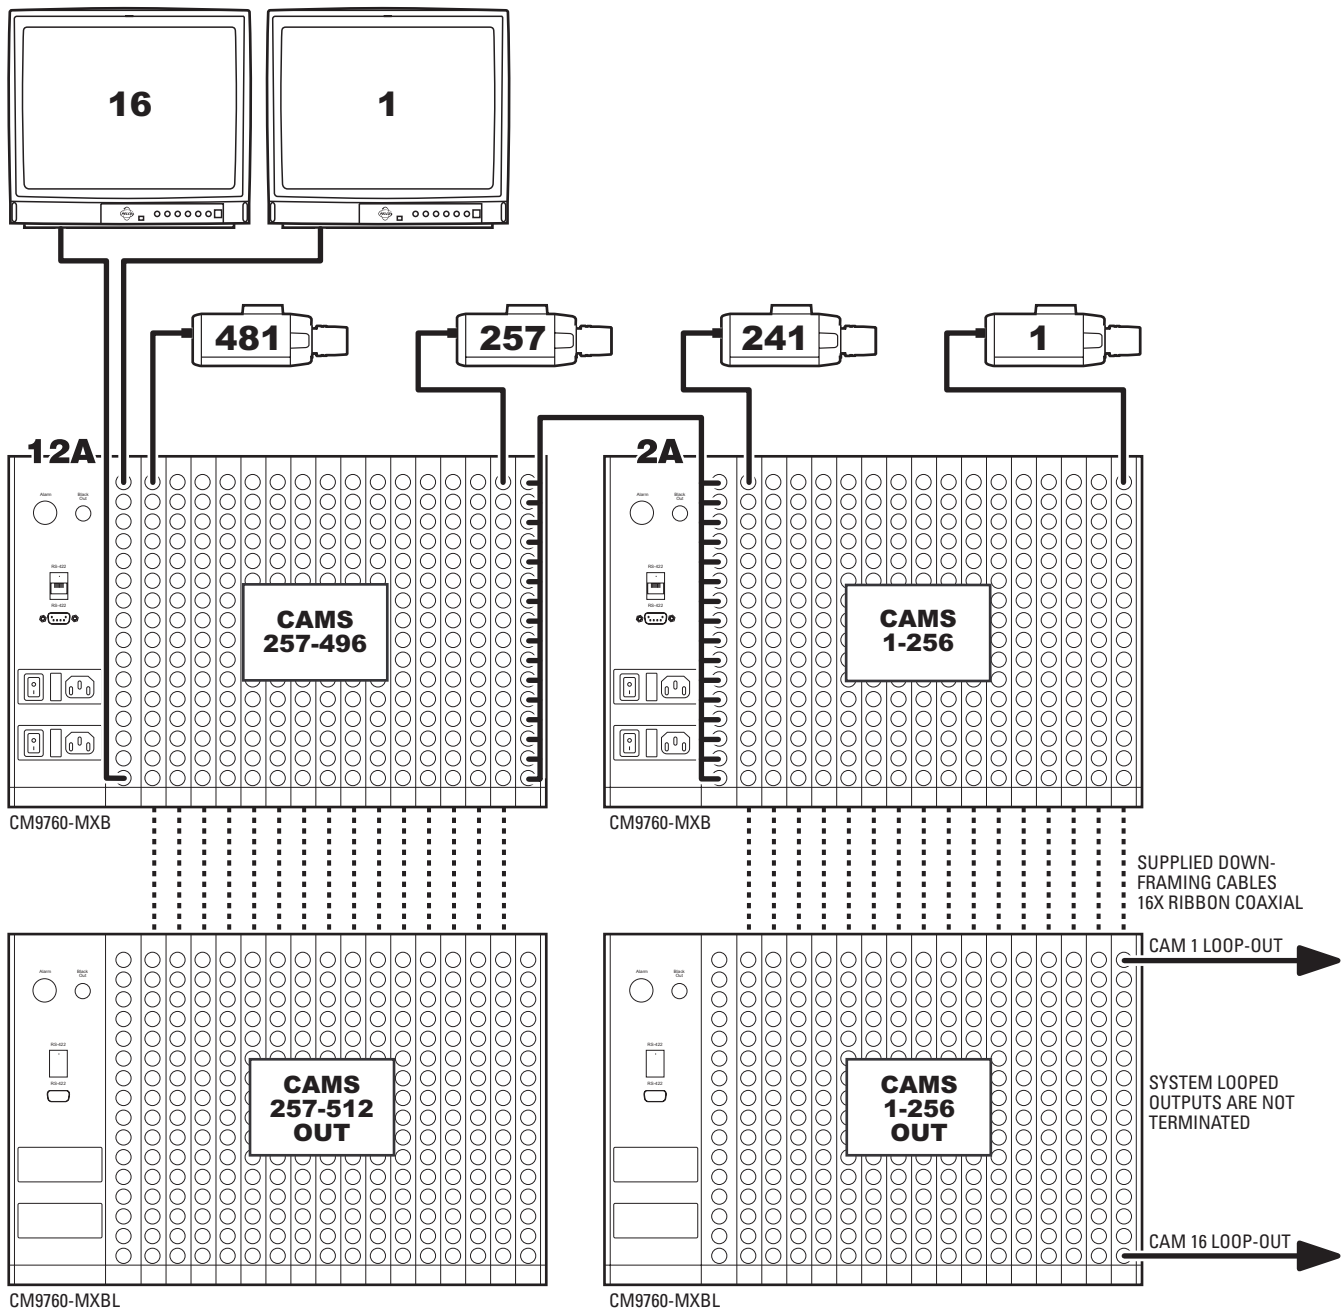
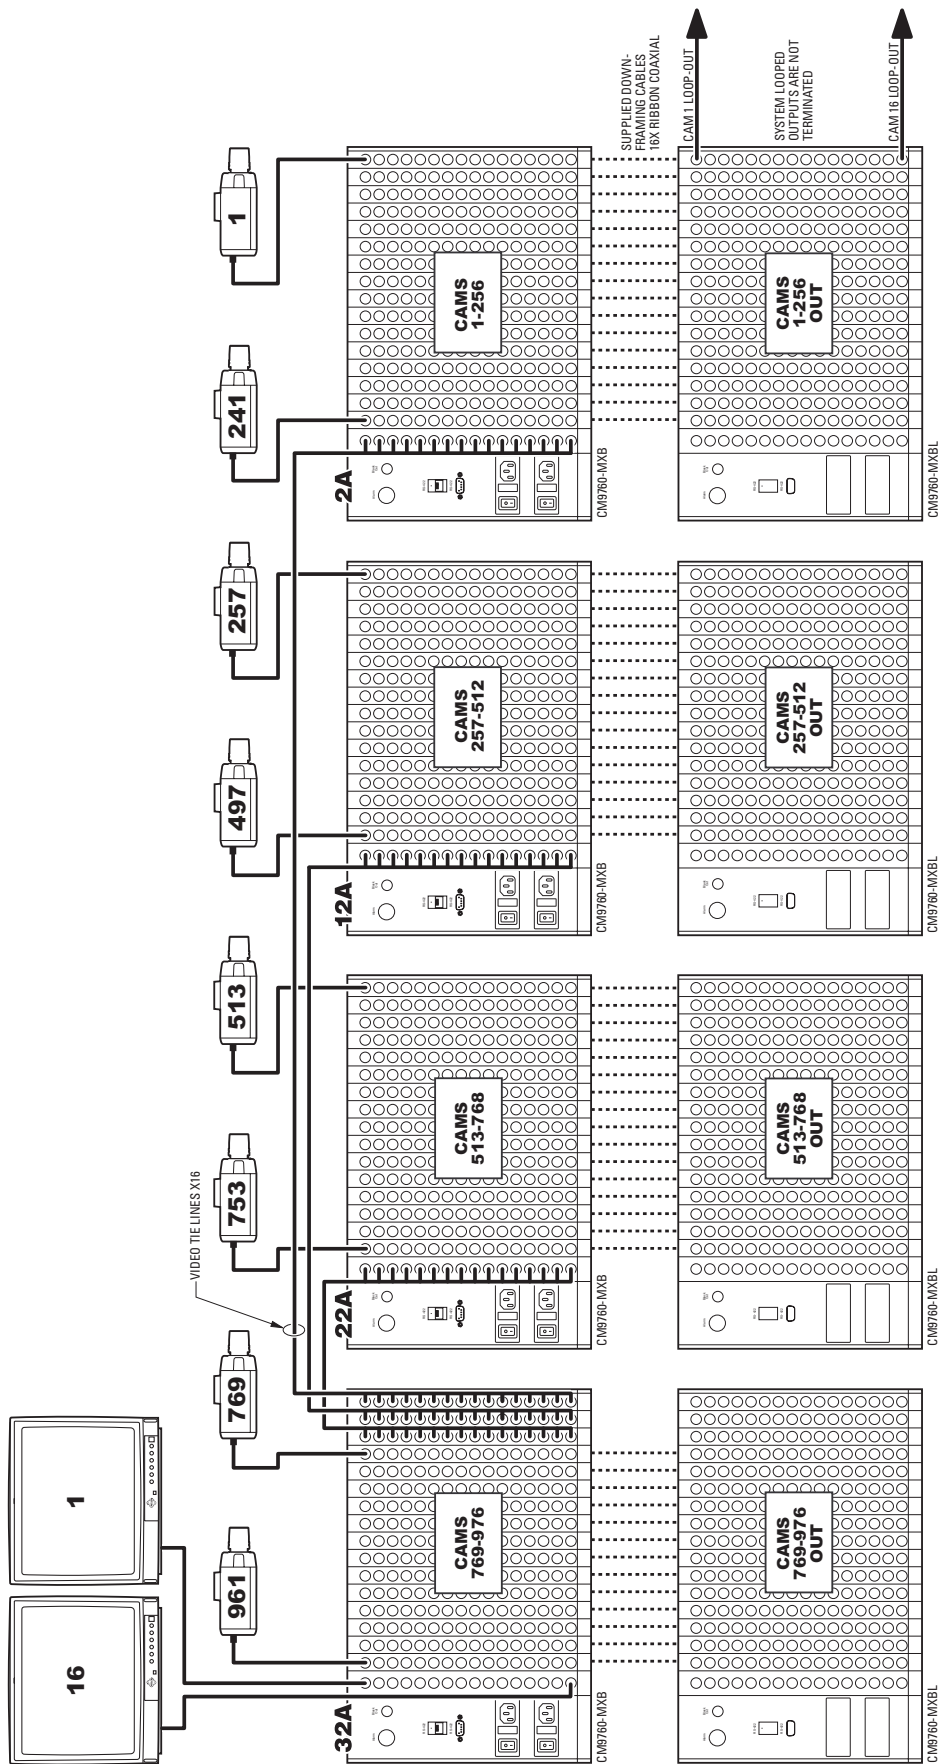

Figure 85. Downframing to CM9760-MXBL: 496 x 16 Configuration, Looping
Figure 87. Downframing to CM9760-MXBL: 976 x 16 Configuration, Looping
- 496 x 16, looping (refer to Figure 85)
- 976 x 16, looping (refer to Figure 87)
Figure 85 to Figure 87 illustrate CM9760-MXBL downframe configurations.